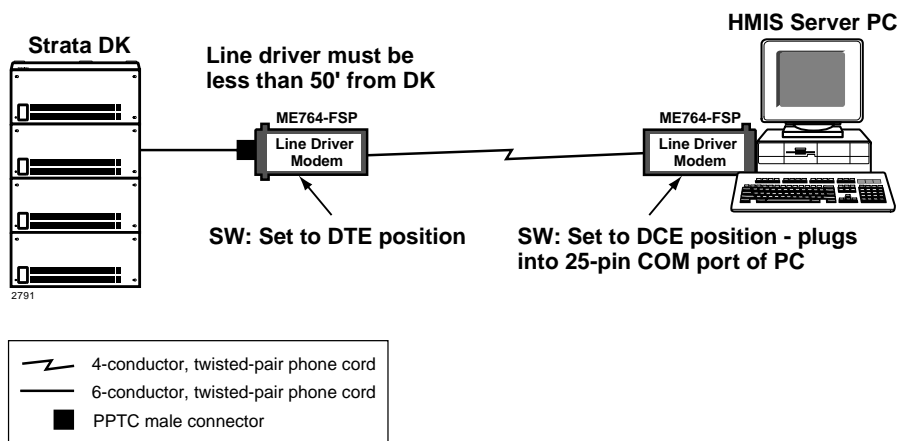

Figure 15-7 Connecting Strata DK to a HMIS Server PC more than 50 Feet Away
1. Connect the Strata DK TTY or SMDR port (RSIU/RSIS, RSSU, PIOU, or PIOUS PCB) to the ME764-MSP Line Driver with an RS-232 cable (see Figure 15-7). Set the switch on the Line Driver to DTE.